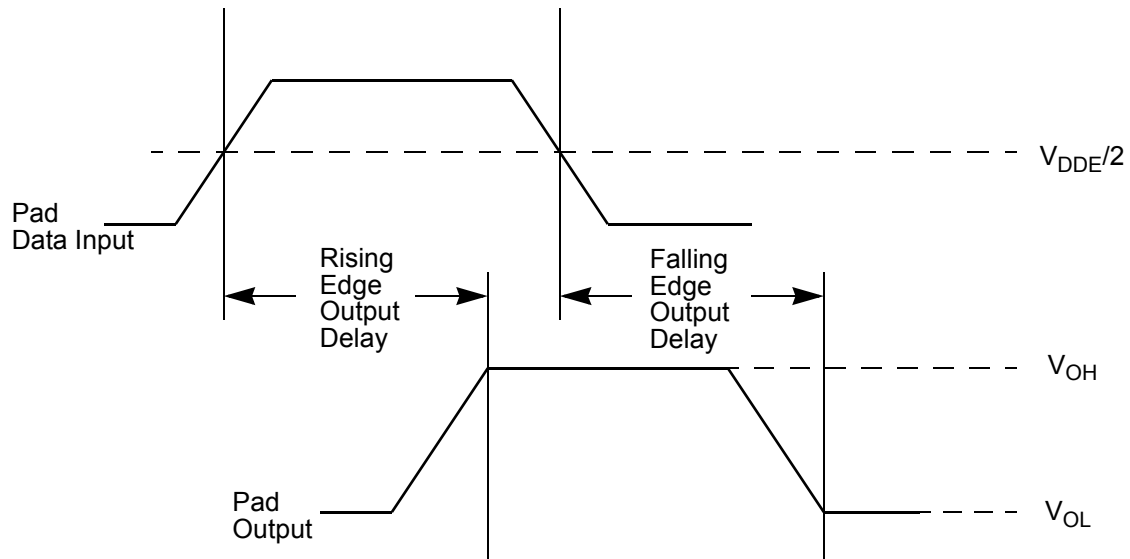

Figure 8. Pad output delay
- 8 Output delay is shown in Figure 8. Add a maximum of one system clock to the output delay for delay with respect to system clock.
- 7 Output delay is shown in Figure 8. Add a maximum of one system clock to the output delay for delay with respect to system clock.